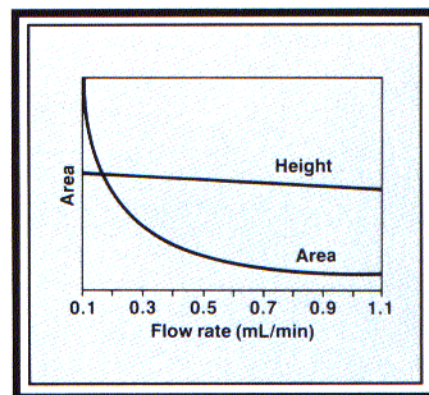

FIGURE 1: The effect of changes in mobile-phase flow rate on peak height and peak area with a UV detector. (Reprinted from reference 2 with permission.)
A number of readers have written to comment on an error in a recent "LC Troubleshooting" column (1). It was stated that peak area is independent of flow rate. That statement is not true, unless a mass-sensitive detector is used. In fact, peak area decreases with increasing flow rate when a UV detector is used. Under the same conditions, peak height remains relatively constant. This is illustrated in Figure 1 (2).
This topic is worth a brief discussion because it helps us to understand more about the behavior of sample compounds as they pass through an LC system. With a concentration-sensitive detector, such as a UV detector, peak height is proportional to the concentration of sample in the detector cell. If we assume that peak volume is significantly greater than the detector cell volume, the height should remain constant as the flow rate is changed (as shown in Figure 1). Changes in flow rate change the peak *width* (in seconds). That is, higher flow rates result in narrower peaks. When these narrower peaks pass through the detector cell, the peak *area* will be lower (constant height \times smaller width = smaller area).